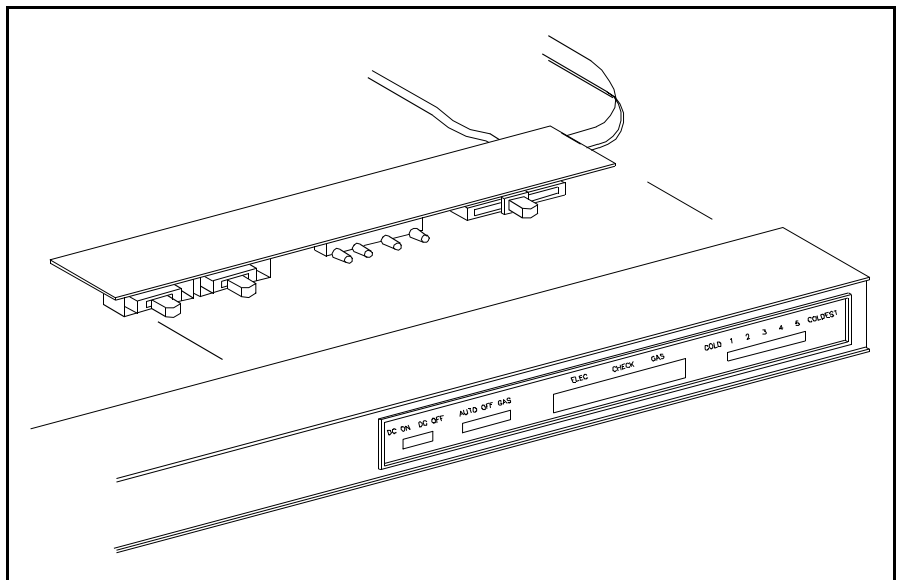

Figure 5.48 Eyebrow Board Removal
14. Remove the Eyebrow board from the Eyebrow as shown by Figure 5.48.